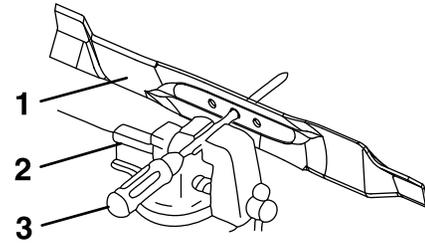

Figure 20
- C. Check the balance of the blade by placing the center hole of the blade over a nail or screwdriver shank clamped horizontally in a vise (Figure 20). If either end of the blade rotates downward, file that end (not the cutting edge). The blade is properly balanced when neither end drops.